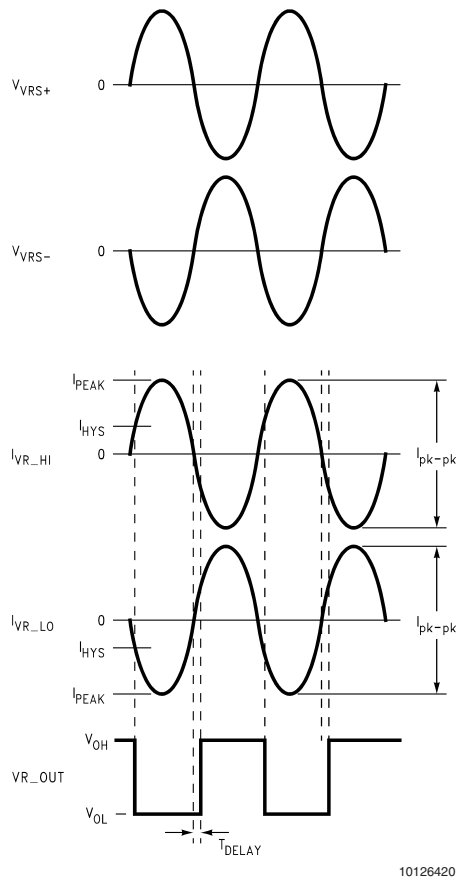

FIGURE 9. VR Interface Timing Diagram
**Note 4:** Tested per VR Sensor Interface test circuit. See *Figure 8* and *Figure 9*.
**Note 6:** VR Sensor Interface Tdelay, measured from VR input sine wave zero-crossing to VR\_OUT going high. See *Figure 9*.